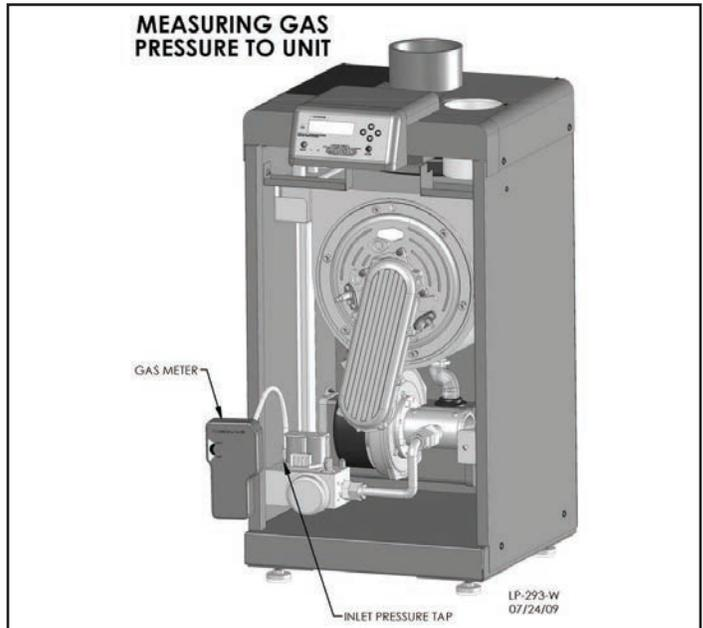

Figure 30 - Measuring Gas Pressure
- Loosen the pressure tap with a small screwdriver. Refer to Figure 30 for location.
- Each unit is equipped with a needle valve that will accept a 5/16 ID hose to connect to a digital manometer or liquid gauge to measure incoming pressure from 0-35" w.c. See Figure 30.